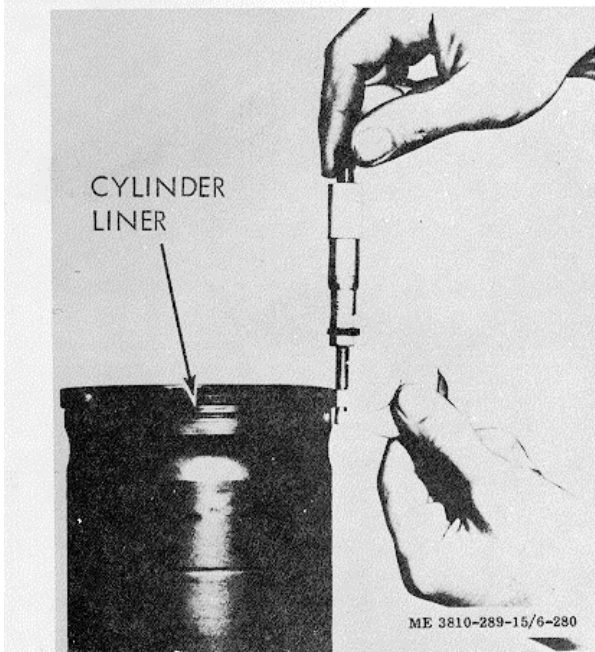

Figure 3-271. Cylinder liner flange inspection.
(2) Measure thickness of cylinder liner flange, outside of bead as illustrated in figure 3-271. Subtract counterbore depth from liner flange thickness to determine amount of shim thickness required to provide correct liner protrusion above block.